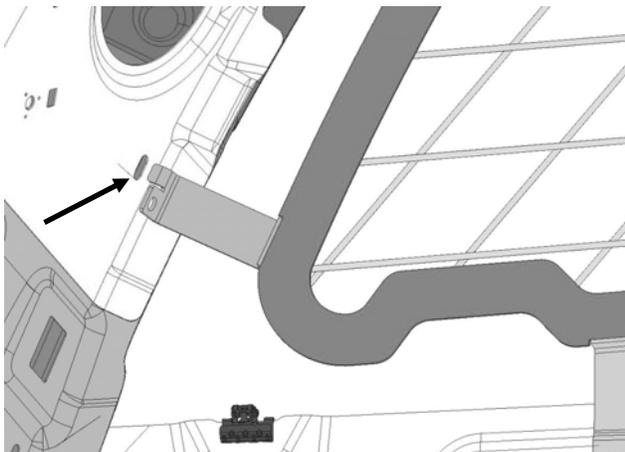

Fig. 1
A. Center 4RWG572110 (driver side window guard) in the window opening. Insert lower locating tab into slot. Tab should rest at the bottom of the slot.(Fig. 1).